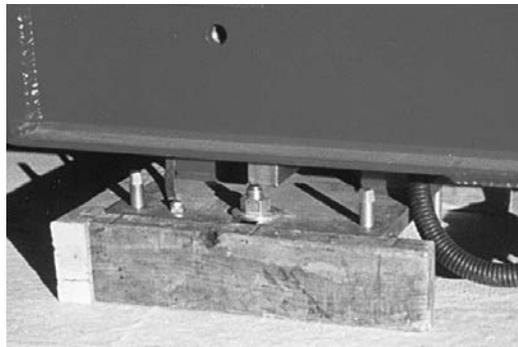

Figure 4-12. Temporary Wooden Forms Around Baseplate
10. Erect temporary wooden forms around each baseplate and pour 9000 PSI, non-shrinking, epoxy or cement grout into the forms beneath the baseplate (Figure 4-12); a funnel with a long tube can be used to pour grout into the forms while working from above the access hole